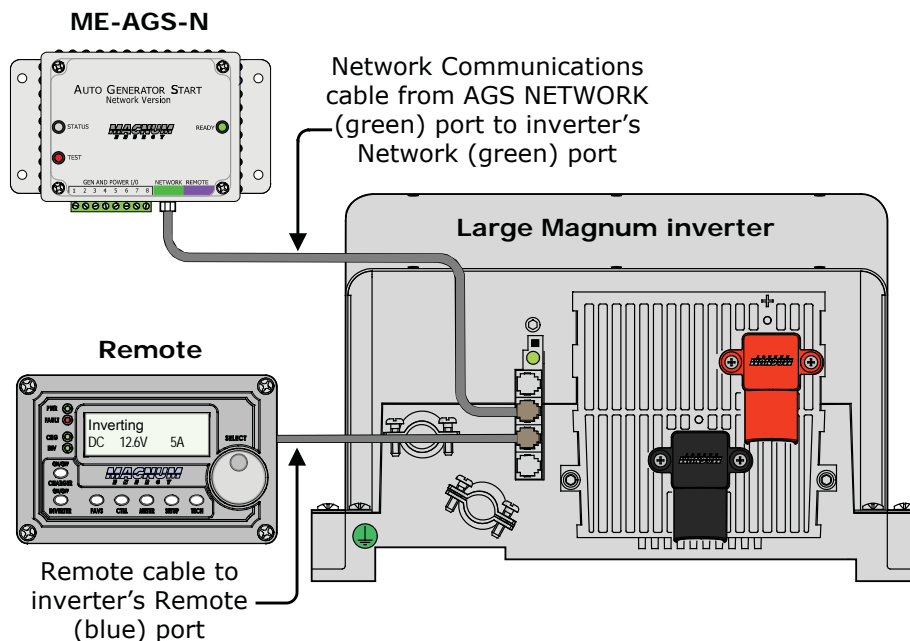

Figure 2-6, Connecting the AGS to a Magnum Inverter (Large)
- **Large inverter (ME, RD, MS, MS-PAE Series)** – connect the other end of the communication cable to the RJ14 Network port (green) on the large Magnum inverter (see Figure 2-6).